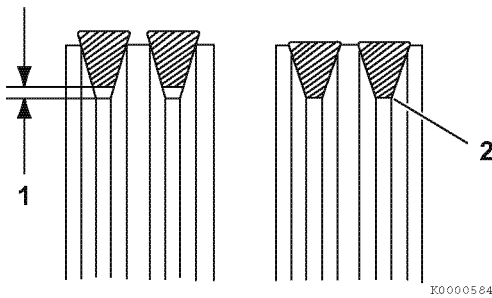

Figure 5-3
3. Tighten the V-belt to the proper tension. There must be clearance (1, **Figure 5-3**) between the V-belt and the bottom of the pulley groove. If there is no clearance (2, **Figure 5-3**) between the V-belt and the bottom of the pulley groove, replace the V-belt.